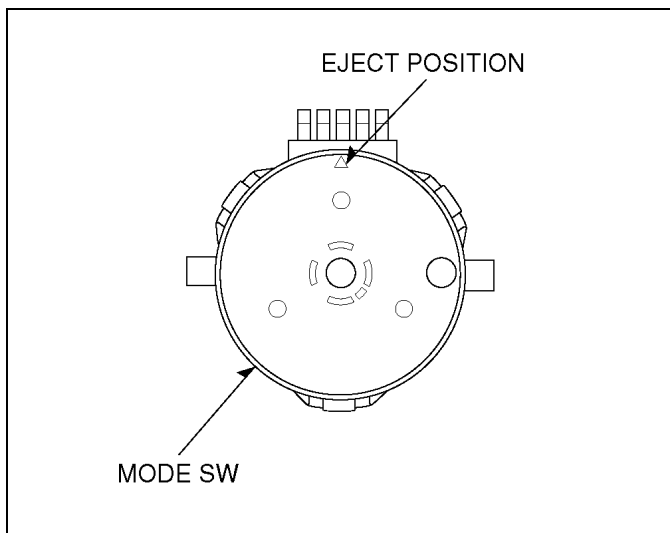

Fig. S9
- f. Set the Position Switch to EJECT POSITION certainly as shown in Fig. S9.